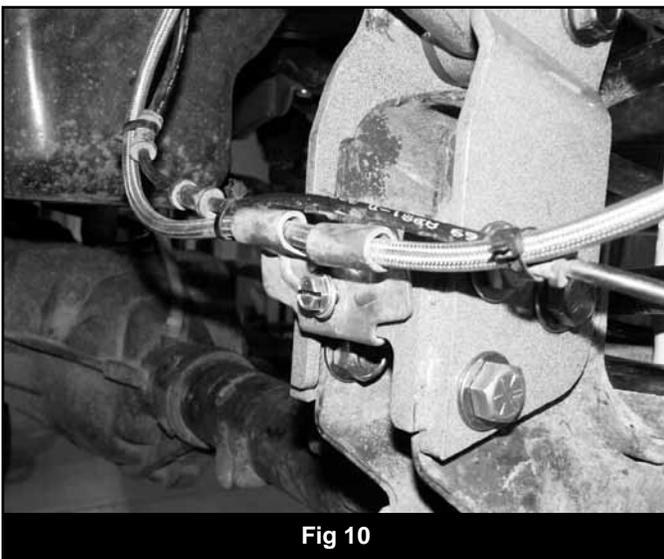

Fig 10
34. Attach the brake line to the hole in the upper control arm relocation bracket with a 5/16" x 1-1/4" self-tapping bolt. Torque to 15 ft-lbs. (Fig. 10) *Note: If installing BDS extended brakelines, they can be attached to the original brakeline axle mount.*